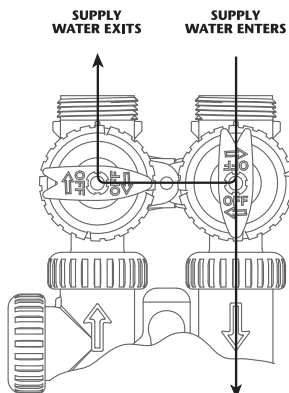

Figure 3
3. **DIAGNOSTIC POSITION:** The inlet handle points toward the control valve and the outlet handle points to the center of bypass valve. Untreated supply water is allowed to flow to the system and to the building, while not allowing water to exit from the system to the building (**Fig. 3**). This allows the service technician to draw brine and perform other tests without the test water going to the building.
4. The bypass is now in the diagnostic mode (**Fig. 3 on page 4**). Check to verify that water is being drawn from regenerant tank with no air leaks or bubbles in the brine line. There should be a slow flow to the drain.